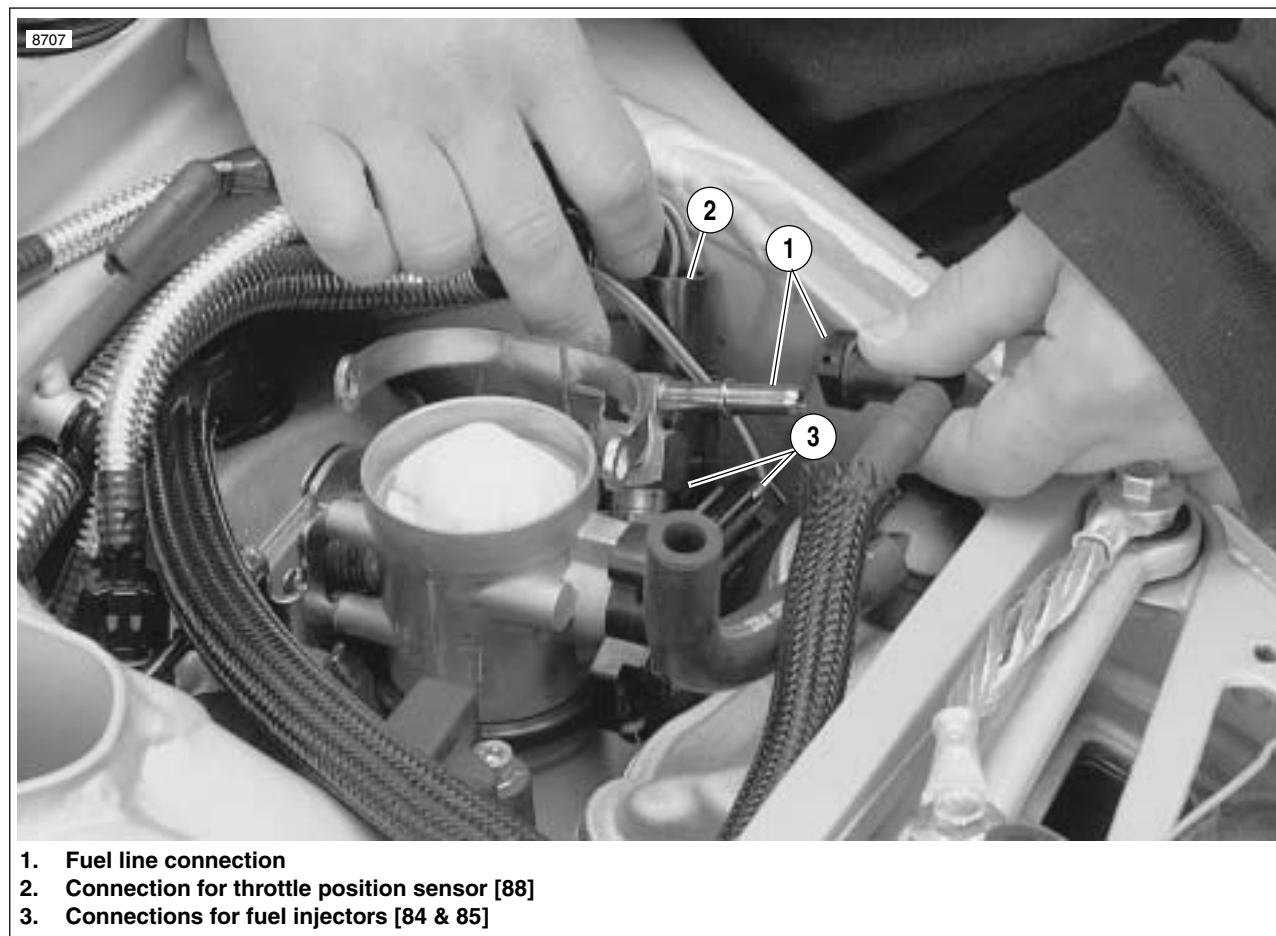

Figure 3-16. Fuel Line and DDFI Electrical Connections (Typical)
6. The Install shop towel in entrance to throttle body to prevent objects from falling into the induction module. See Figure 3-16. Disconnect fuel line.